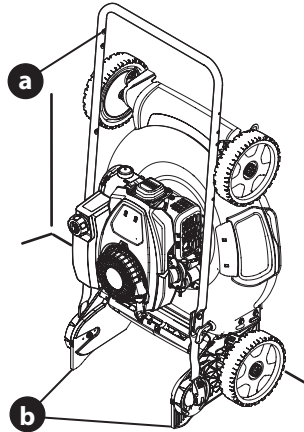

Figure 21
6. Lifting from the handle (a), tilt the mower up onto the rear wheels and back of the handle bracket (b) (Figure 21).
2. To unfold the handle, unlock the two handle release levers (inset, Figure 21) and perform STEPS 5-8 in Set-Up, Vertical Storage Handle on page 8.